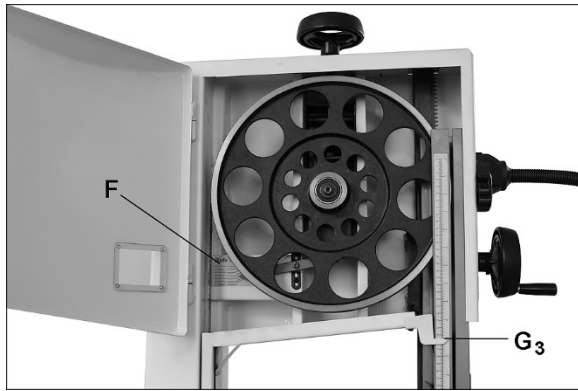

Figure 5-8
3. The gauge (F, Figure 5-8) indicates approximate tension according to blade width in inches. Initially, set blade tension to correspond to width of blade. As you become familiar with the saw, you may find it necessary to alter blade tension from the initial setting.